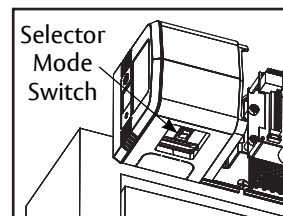

Figure 26
1. Open door on union assembly and place selector mode switch in 'OFF' position. (Figure 26)
7. Place selector mode switch of union assembly in 'ON' position for activation by push plate, RF button, or other activation devices. Place switch in 'H/O' for continuous hold open. (Figure 26) Secure union assembly door with #4 Phillips screw when finished.